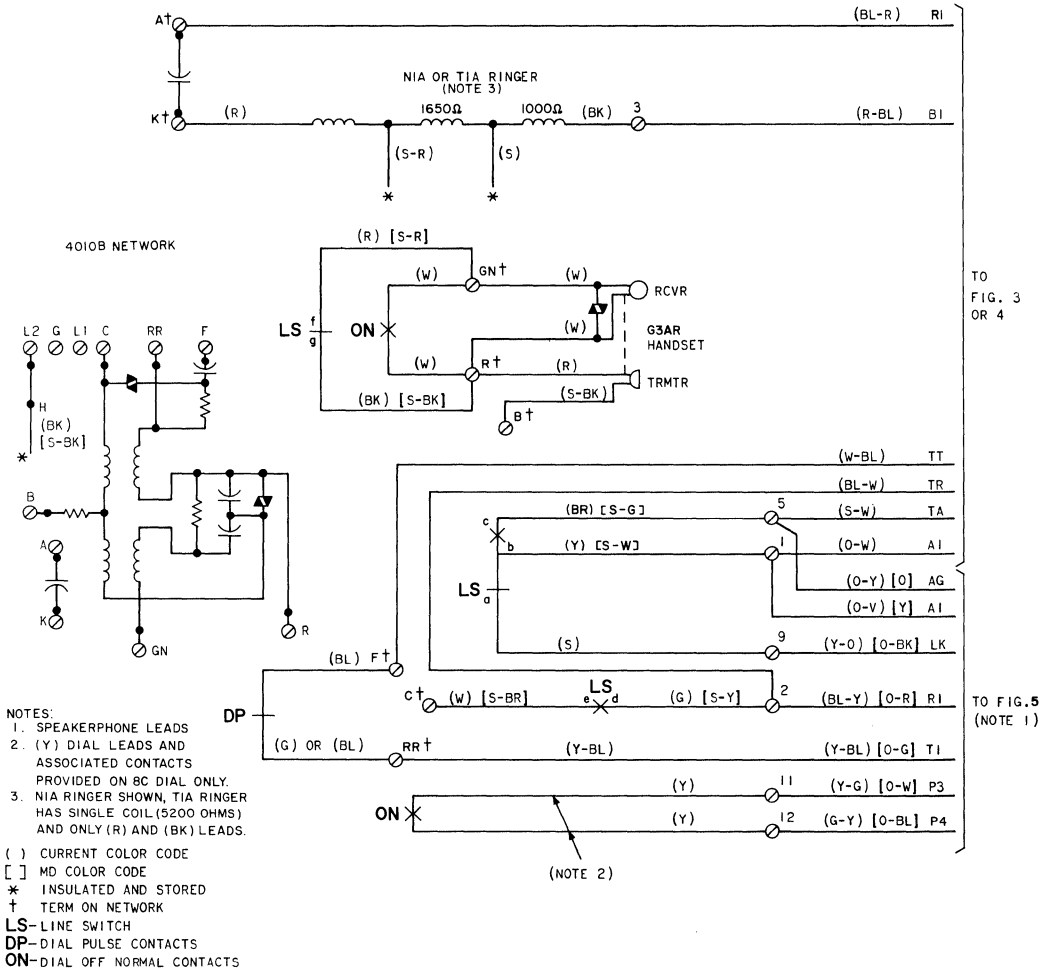

Fig. 1—Current 634- and 635-Type (MD) Telephone Set, Connections
- Add information on T1A ringer, Fig. 1
2.07 The 8R dial replaces the 8C dial. For speakerphone conversion, an 8C dial must be installed and wired per Fig. 1.
- Add information on T1A ringer, Fig. 1 and change 241A amplifier to 241-type
◆ Fig. 1—Current 636- and 637-Type (MD) Telephone Set, Connections ◆